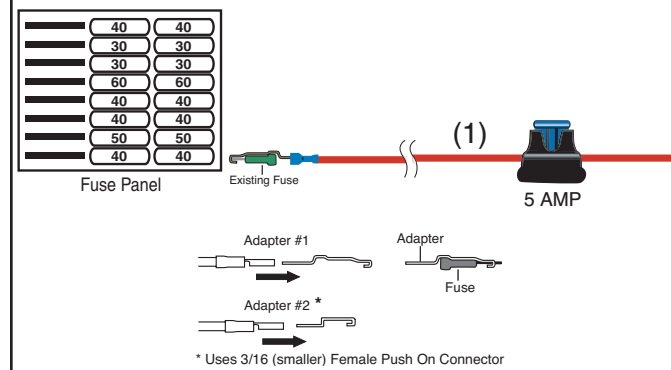

Figure 6
4. Choose the supplied fuse adapter that best suits your fuse panel (Figure 6).
6. Attach the chosen fuse adapter and to a keyed on ignition source on the fuse panel (Figure 6).